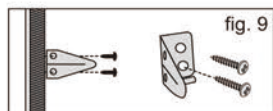

fig. 9
7. Hole on end cap of the bottom rail fits into Hold Down Brackets at the end of the window. See fig. 9.